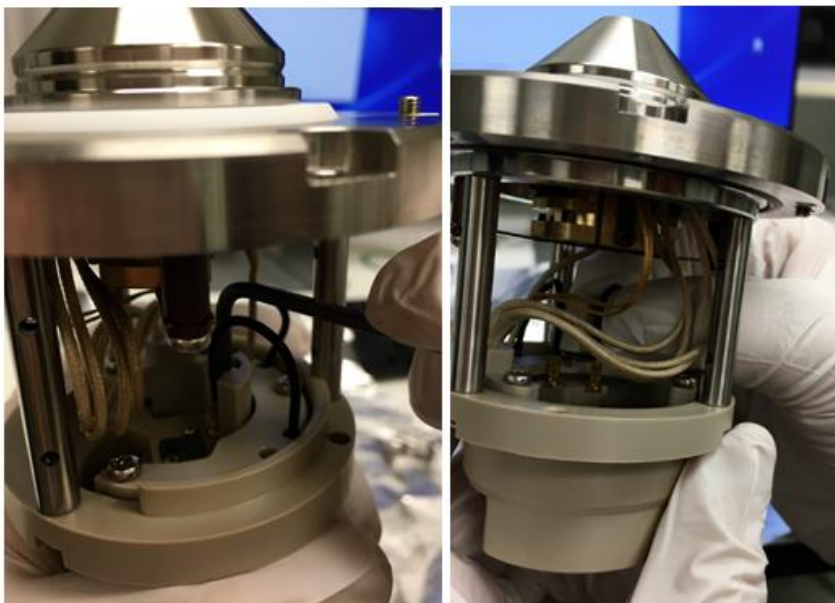

Figure 117: Removing the PEEK piece between the jumper wires
- 14) Using a small Allen key, unscrew the PEEK piece between the jumper wires. Remove the piece. See Figure 117